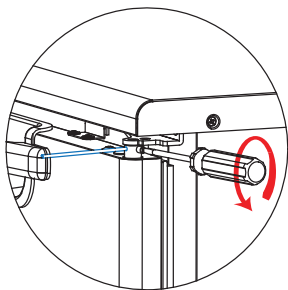

Fig 9-31
3. Turn and detach the tension pin by using the a (-) screwdriver. Avoid dropping or losing the pin. (Fig 9-31)